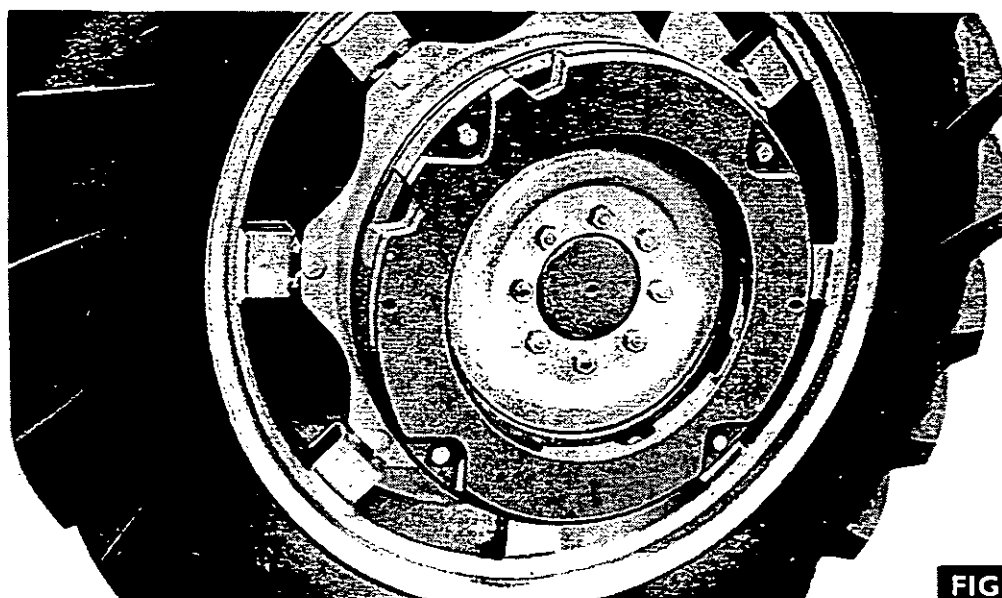

FIG. 17
5. Fig. 17. Fit second and subsequent weights with four bolts and spring washers for each weight.